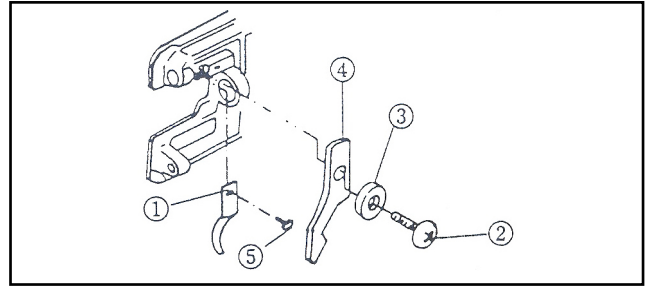

Figure 7.19
- A. To replace the fixed knife '1' release the spool case positioning finger fixing screw '2' as shown in Fig. 7.19 and remove washer '3' and finger '4.' Remove the fixed knife screw '5' and then remove the fixed knife.